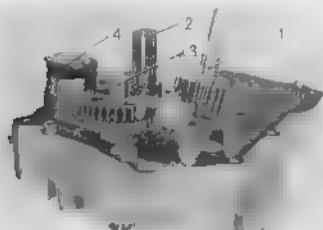

Fig. 3.96 Removing the kick starter spindle
- ① Kick starter spindle
- ② Transmission main shaft
- ③ Transmission counter shaft
- ④ Gear shift drum
6. Pull out the kick starter spindle. ① (Fig. 3.96)